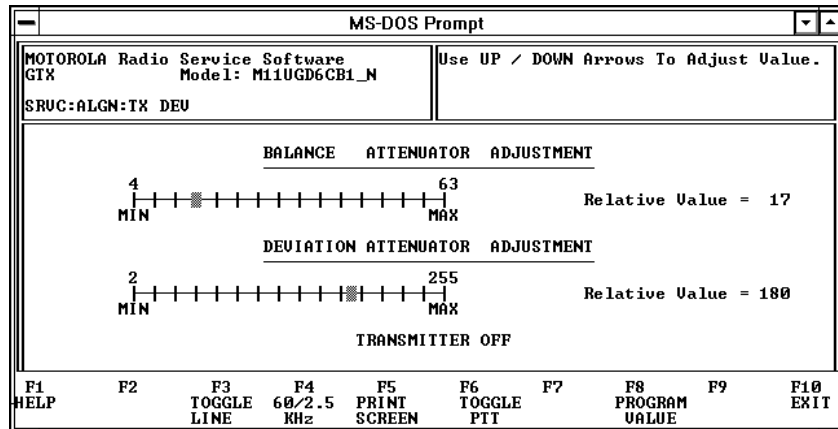

Figure 11.2 – Transmit Deviation Adjustments
1. Press F3, "DEVIATION Adjustment". The adjustments for the "Balance" and "Deviation" attenuators are shown in Figure 11.2.